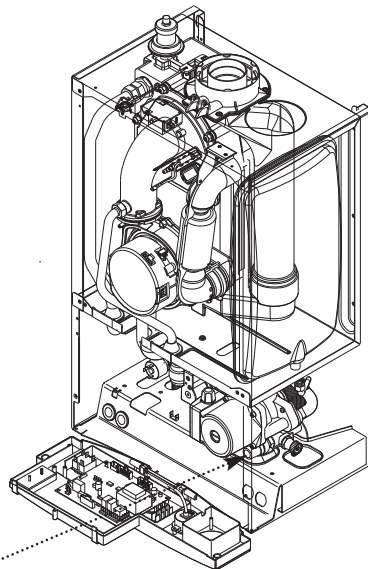

Fig. 6
1. The appliance expansion vessel is pre-charged to 0.5 bar. Therefore, the minimum cold fill pressure is 0.5 bar. The vessel is suitable for correct operation for system capacities up to 125 litres (24) 155 litres (27, 30). For greater system capacities an additional expansion vessel must be fitted. For GB refer to BS 7074 Pt 1. For IE, the current edition of I.S. 813 "Domestic Gas Installations".
6.7 Pressure Relief Valve (Fig. 6)